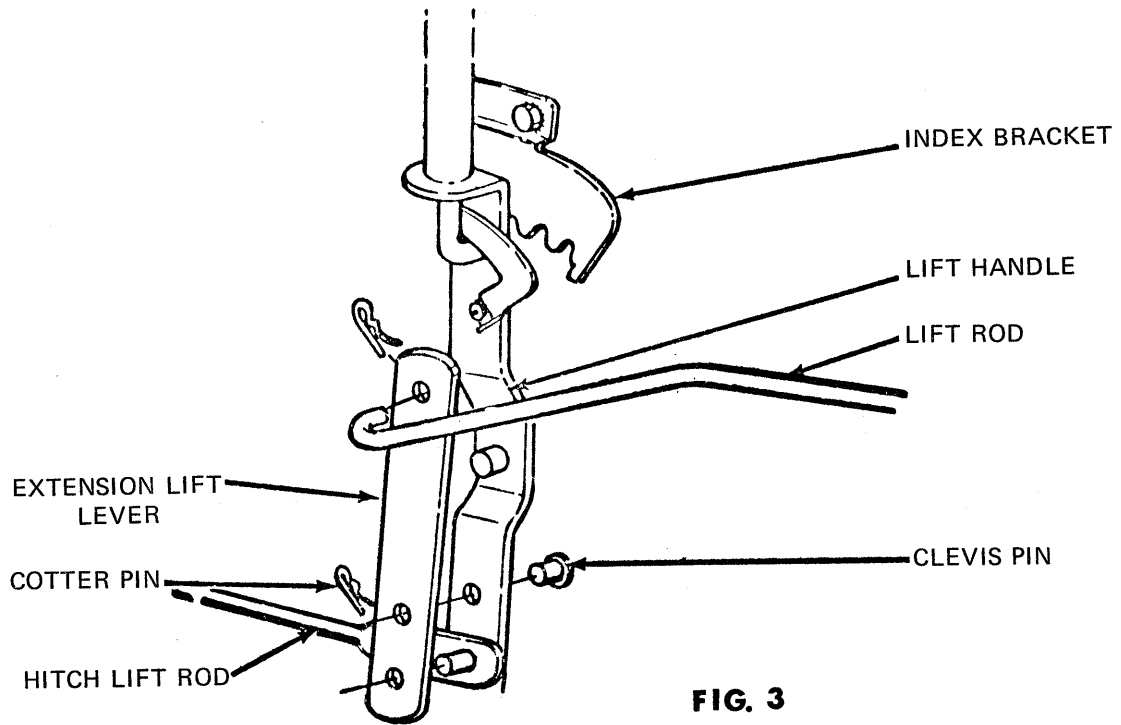

FIG. 3
6. Attach hanger bracket to tractor with four 5/16 bolts and sems nuts provided. See Fig. 3.